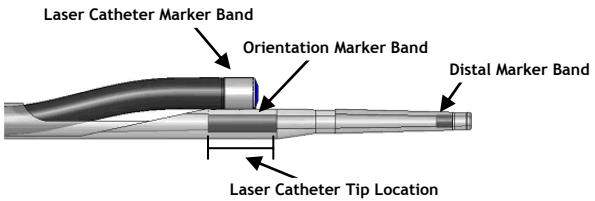

Figure 3. The Turbo-Tandem[®] System Tip Location in the Extended Position
- Do not extend the laser catheter distal tip marker band beyond the orientation marker band of the Turbo-Tandem[®] System (Figure 3). This may result in damage to the device tip.
- If the catheter advances beyond or behind the orientation marker while lasing and advancing the system, stop and re-assess before continuing (Figure 3). Continuing to advance the system or lase may result in damage to the tip of the catheter.